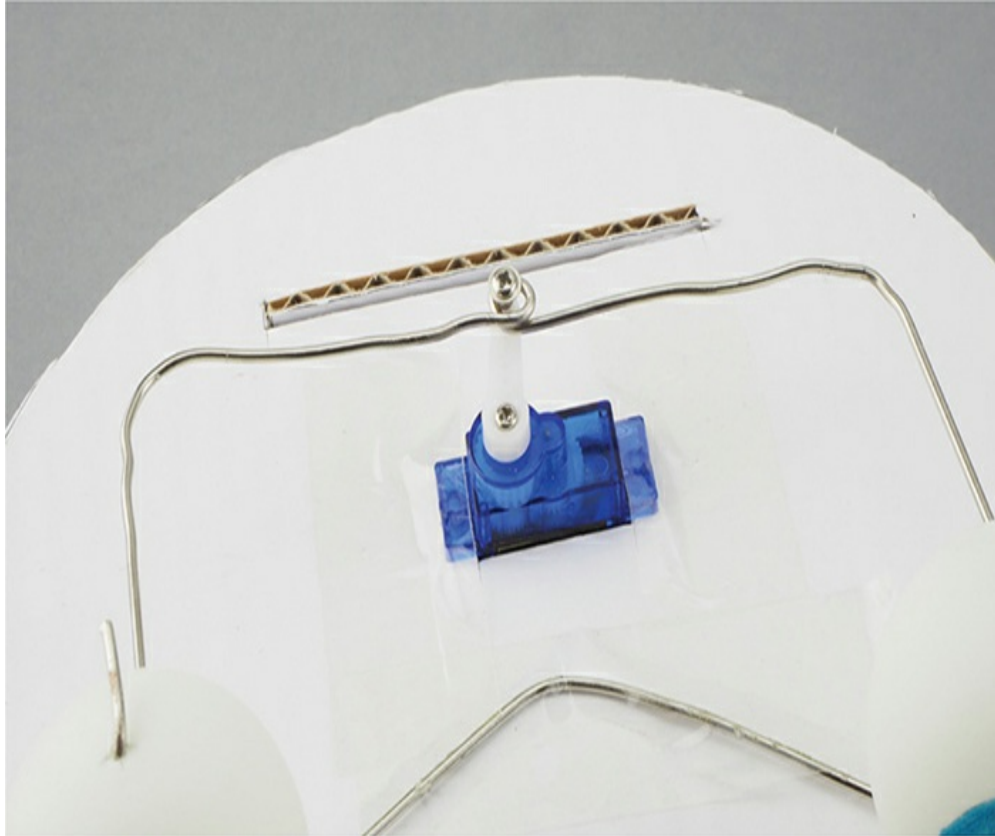

*Figure 6-19: Using a screwdriver to bend a loop in the servomotor-to-eyeball connector*
18. To make the loop in the center of the wire, wrap the wire tightly around a small screwdriver shaft (shown in Figure 6-19). The diameter of the screwdriver I used was about 3 mm, making the outside diameter of the little loop around 5 mm. Use a screwdriver with a sharp end that's narrower than the shaft, or it will be hard to slide the wire off once it's been bent. Make sure to straighten the legs of the wire as shown.